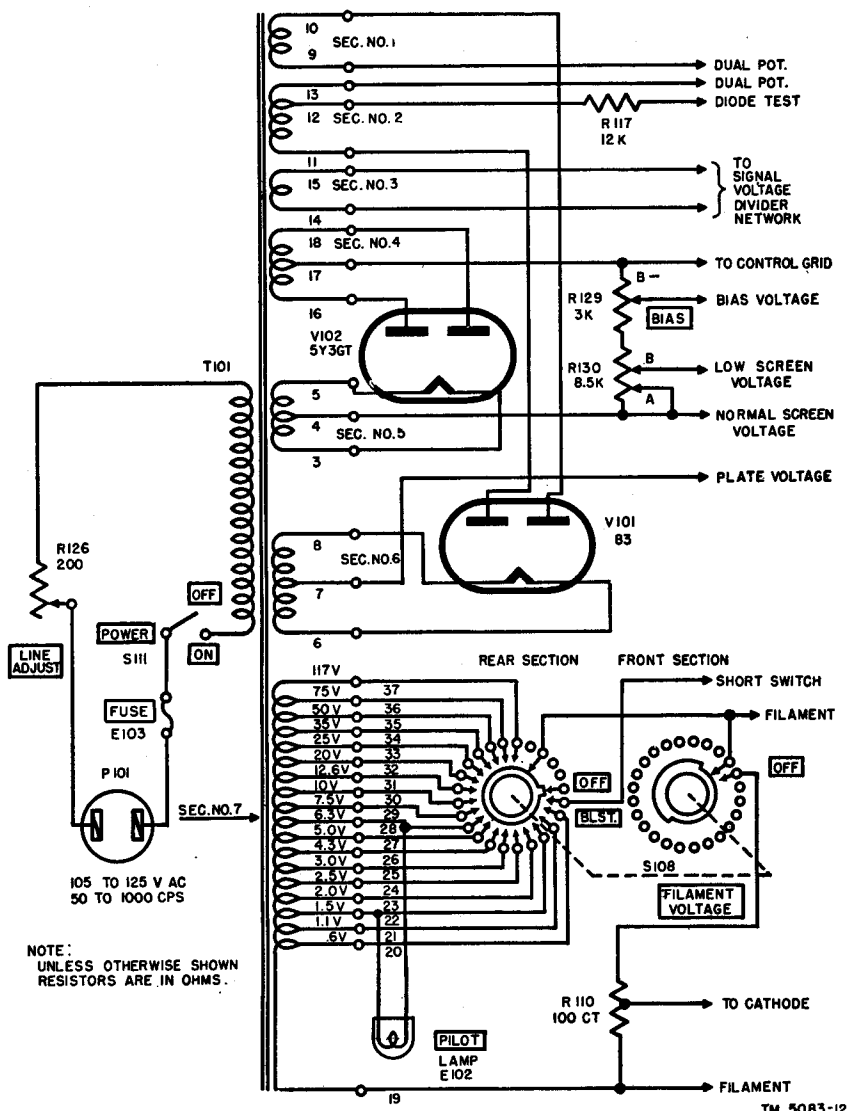

Figure 13. Simplified power supply circuit.
a. Power Supply Circuit (fig. 13).
- (1) The primary of power transformer T101 is supplied from a voltage source of 115 volts plus or minus 10 percent and a frequency of 50 to 1,000 cps through the POWER ON-OFF switch (S111), the LINE ADJUST control (R126), and the FUSE lamp (E103). The LINE ADJUST control, operated